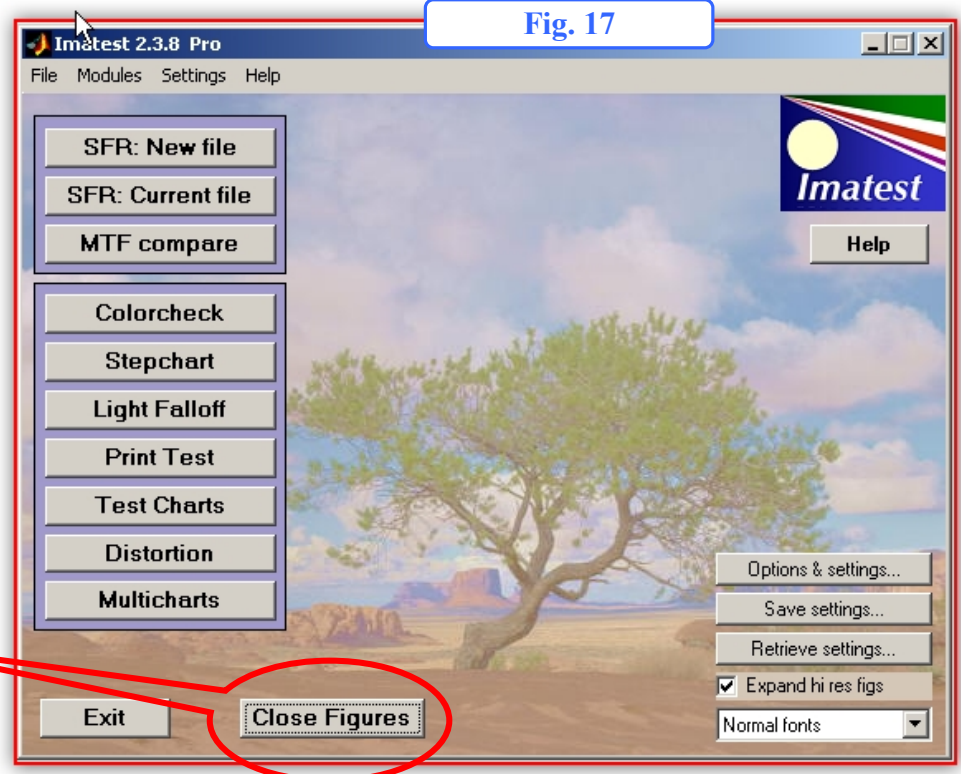

Fig. 17
- 9) Click on “Close Figures” at the main Imatest™ window to begin new image analysis (Fig. 17). Go on with the rest of images (doing steps 3-8 with each image till you are done.)